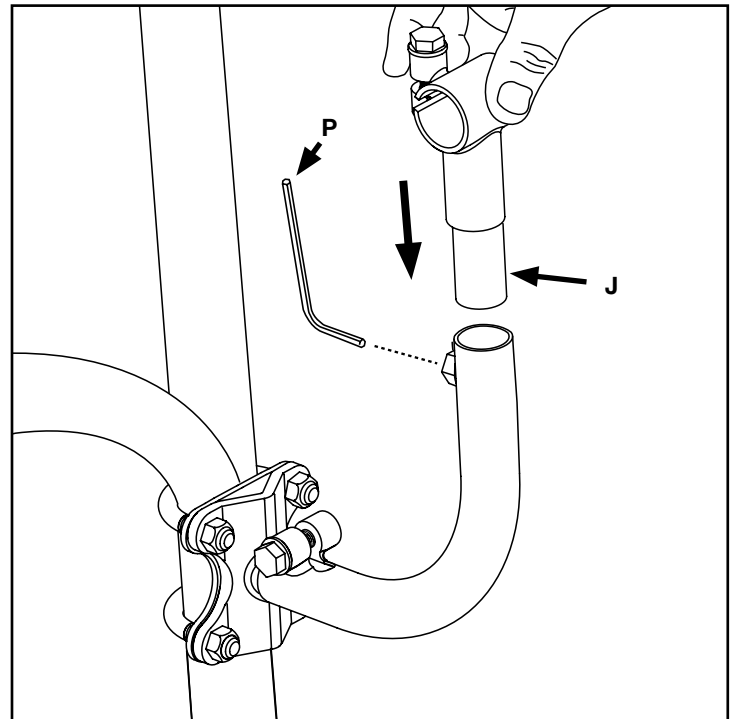

Fig. 4
INSTALL THE UPPER MOUNTING POSTS (FIG. 4)
4. Insert upper mounting posts [J1, J2] into lower mounting posts as shown. (Fig. 4)
6. Snug but do not fully tighten. Leave the nuts loose for final adjustments of the mounting posts. Tighten set screws on the lower mounting posts with supplied Allen wrench [P]. Fig. 4